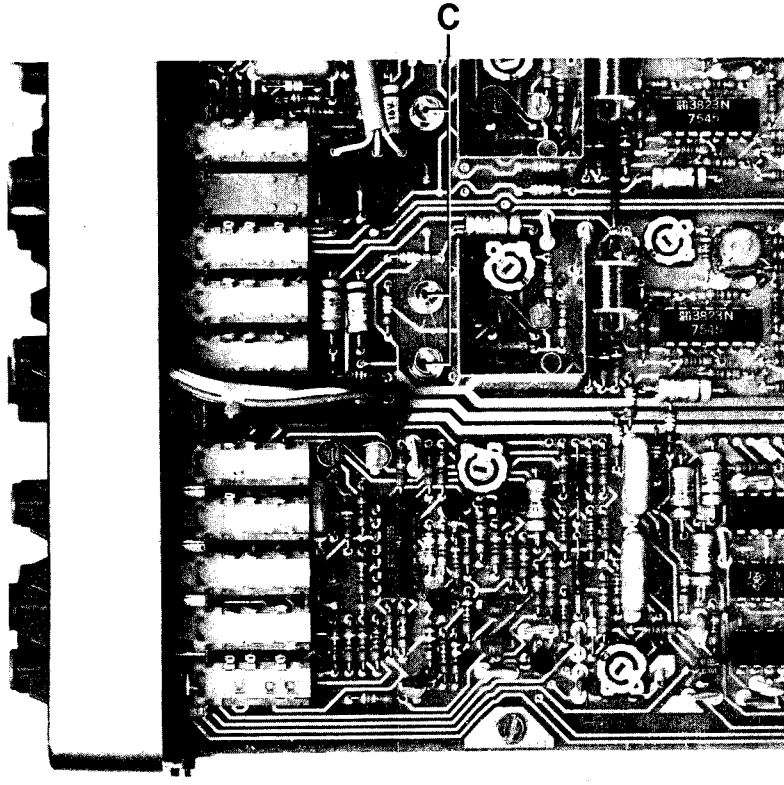

Fig. 3.6. Removing the front assembly (screws C)
- Remove the three screws C (Fig. 3.6.)